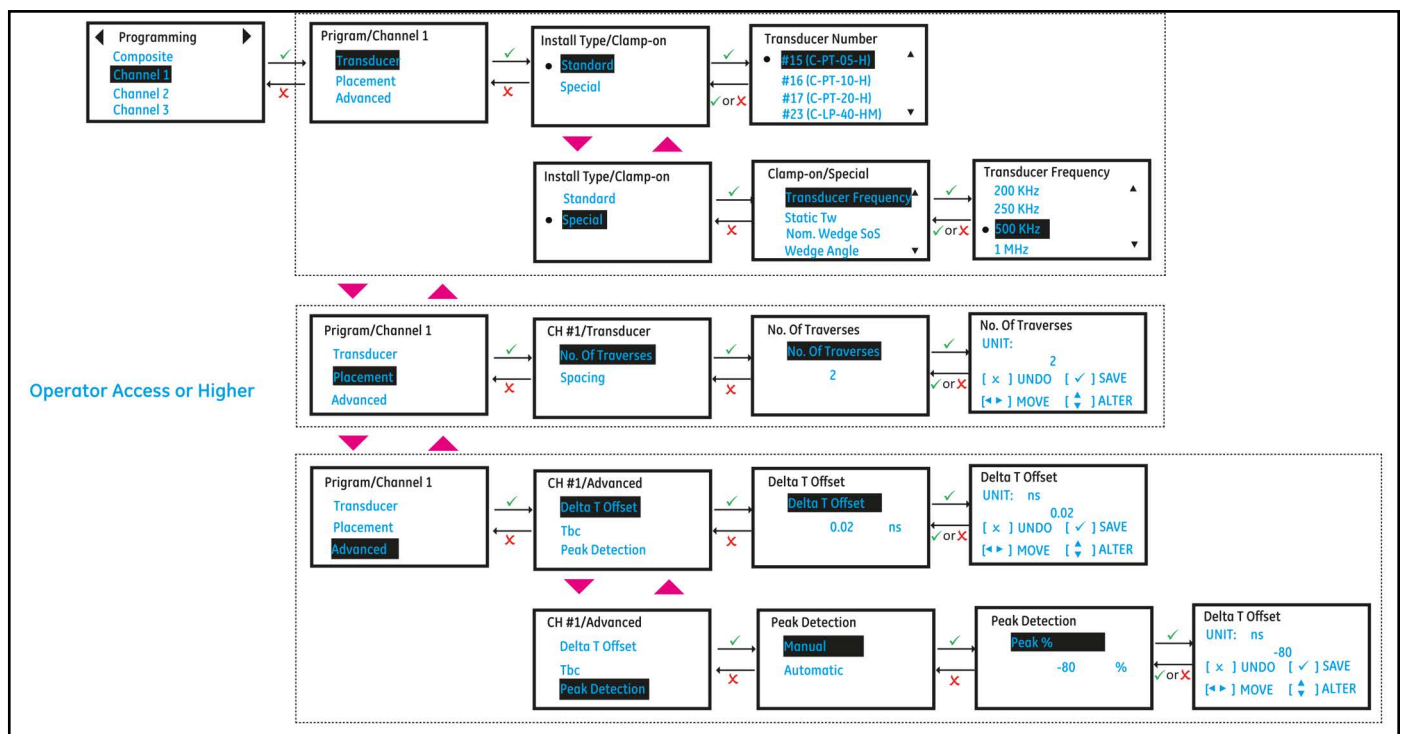

Figure 50: Channel Programming (Transducer, Placement and Advanced)
1. Refer to Figure 50, select **[Placement]** and press **[ENTER]**.